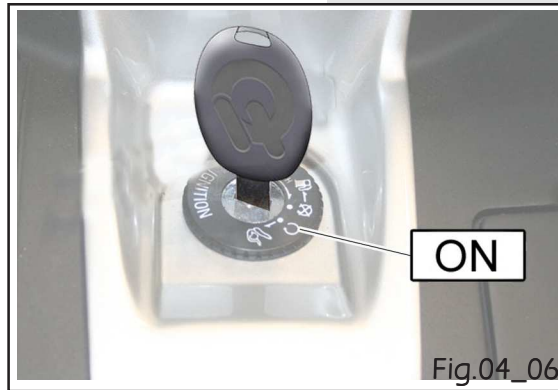

Fig.04_06
- While pulling the front brake lever press the starter button as shown in (fig.04_07).